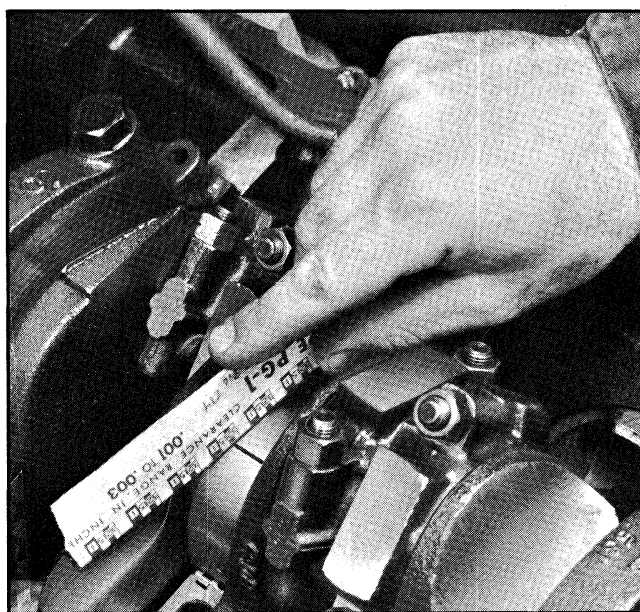

Fig. 6-135 Measuring Plastigage
4. Remove bearing cap and using Plastigage scale on envelope measure width of compressed Plastigage before removing it from the bearing or journal (Fig. 6-135). If the bearing clearance is between .0005" and .0020", the clearance is satisfactory. If the clearance is more than .0020", replace the bearing with the next size undersize bearing and recheck clearance. Bearings are available in standard size, .001" and .002" undersize.